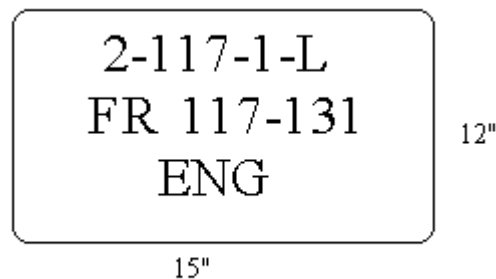

Figure 10-1 Compartment Bulls-Eye
- (1) Compartment bull's eyes are to be applied in each space or compartment to identify the space, setting forth the frames which bound the space and the division responsible. An example is shown in Figure 10-1.
- (2) A bull's eye should be visible from each access to the space.
- (3) Lettering will be two-inches in height applied over a 12-inch high by 15-inch wide photoluminescent label or yellow painted area.
- (4) For photoluminescent adhesive material, use blue retro-reflective lettering, two inches high. For painted bull's eyes, use black lettering, two inches high.
- g. Battle Dressing Station (BDS) Directional Arrows. On cutters 180 feet and over, these signs shall be applied on bulkheads in each space over 15 feet in length and on the bulkheads of all passageways indicating the principal route to the nearest BDS. In passageways over 15 feet in length, the markers are to be placed every 15 feet or less depending on the configuration of the passageway. See Figure 10-1 for specific sign configuration.